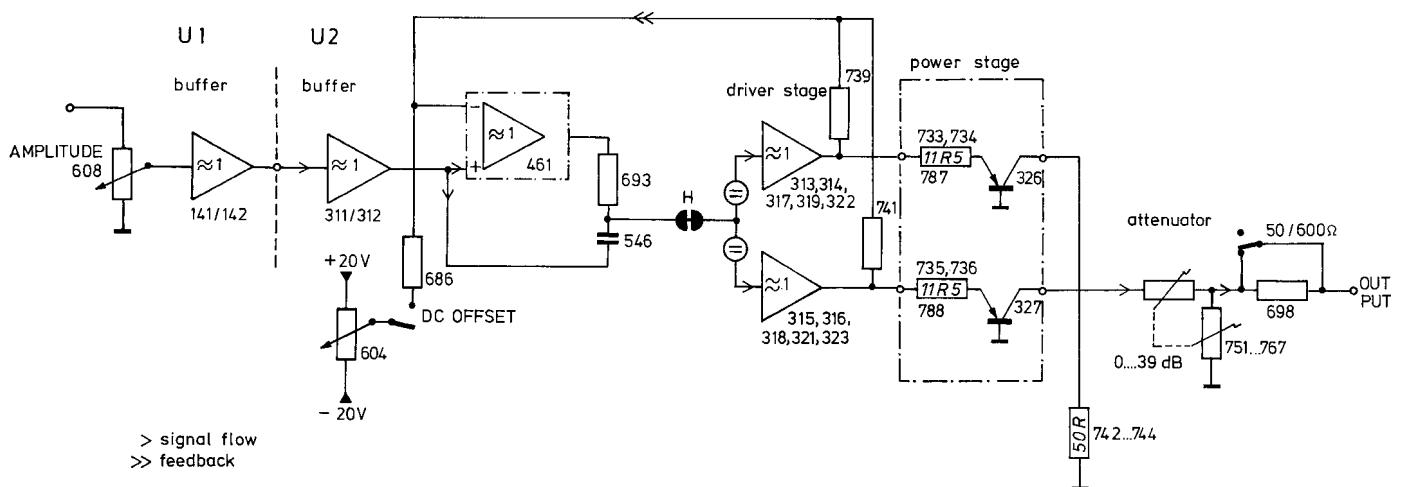

Fig. 4.1 - 8 Power amplifier
4.1.10. Power amplifier , see figs. 4.1 - 8, 47